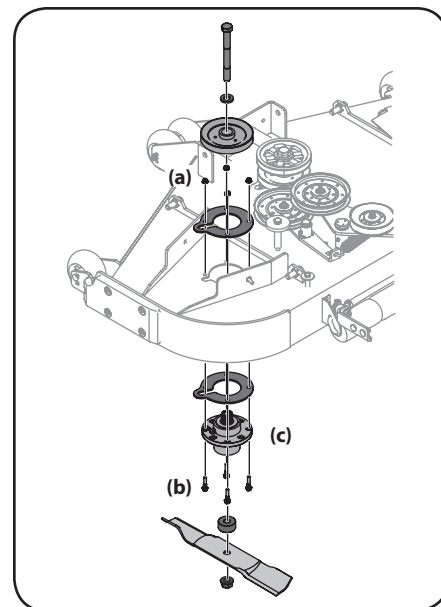

Figure 4-21
6. Using a 3/16" wrench or socket ratchet remove the flange lock nuts, and the hex flange bolts. Remove the spindle assembly. See Figure 4-21.